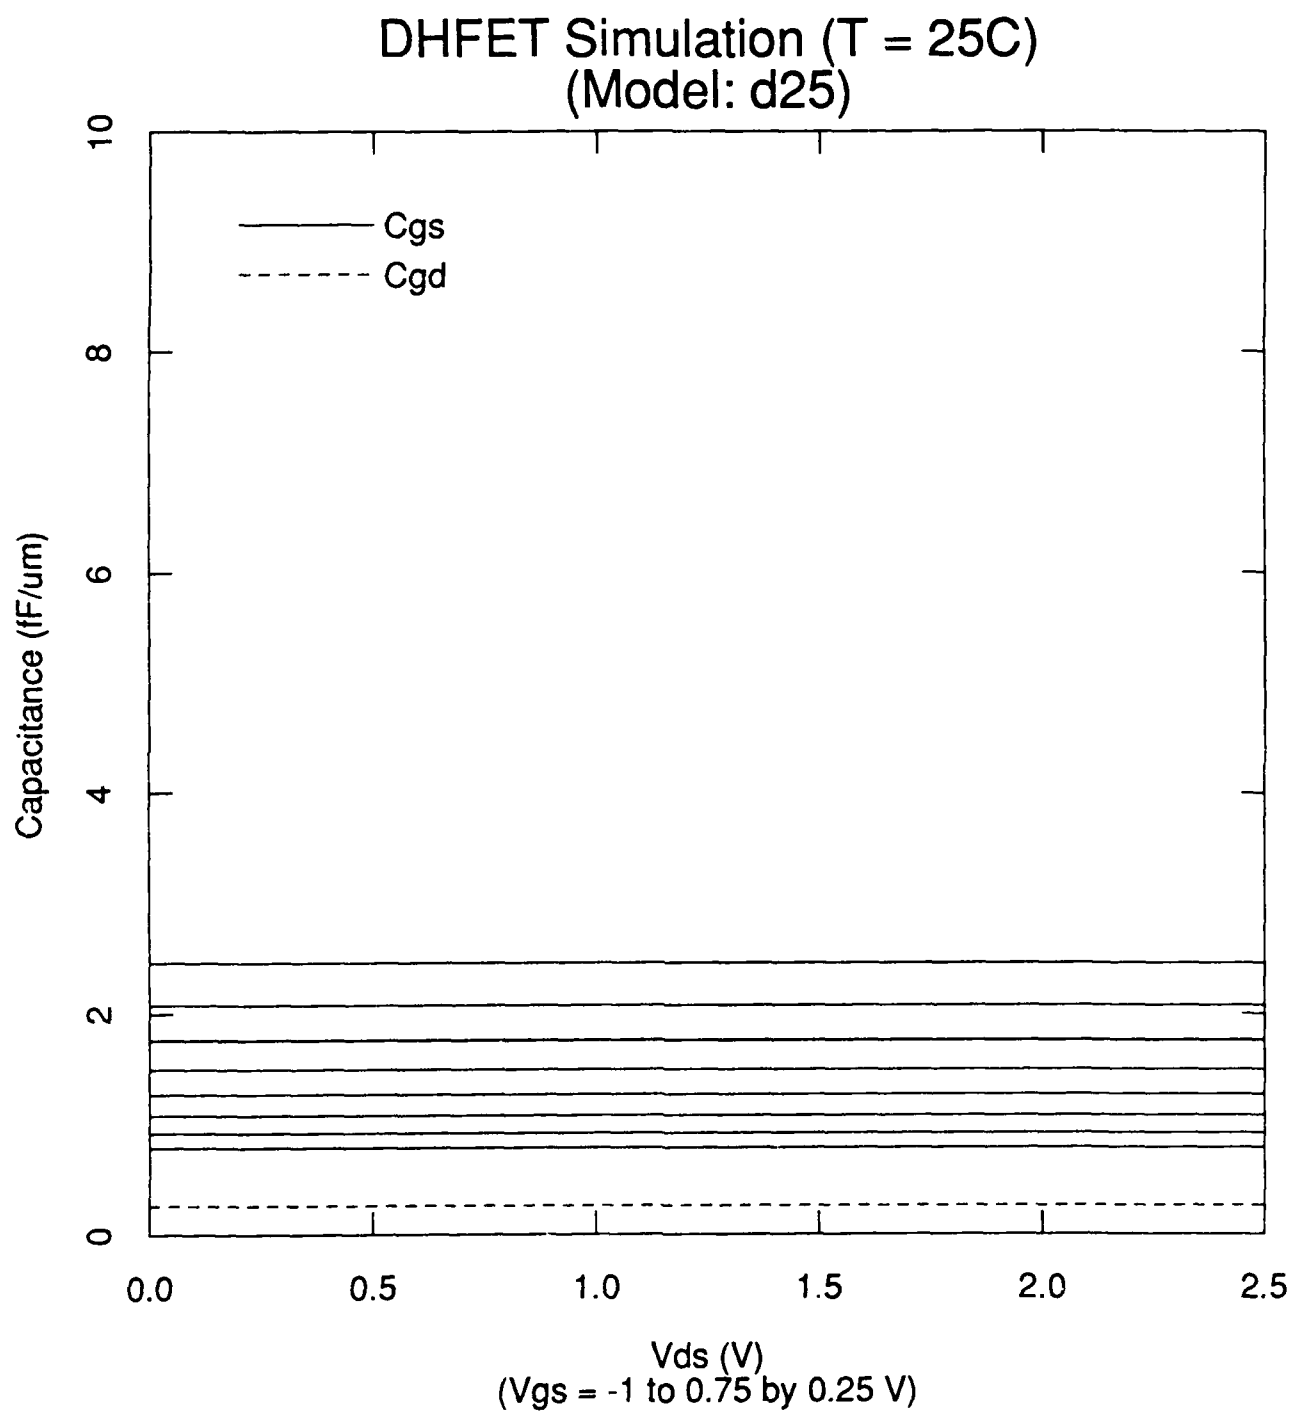

Figure 7. C_{gd} and C_{gs} vs. V_{ds} (V_{gs} stepped) for d25 DHFET Simulation at 25C.
- Figure 7. C_{gd} and C_{gs} vs. V_{ds} (V_{gs} stepped) for d25 DHFET Simulation at 25C.